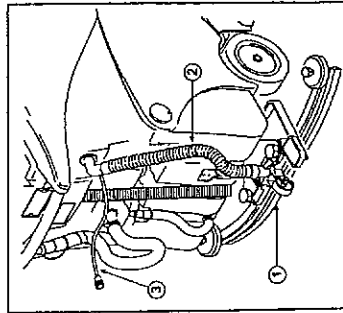

Fig. 10
- insert the quick coupling of the accessory in the corresponding coupling of the machine (fig. 10, ref. 3);
- disconnect the suction tube sleeve (fig. 10, ref. 2) from the squeegee (fig. 2, ref. 6) and connect it to the corresponding tube of the accessory;